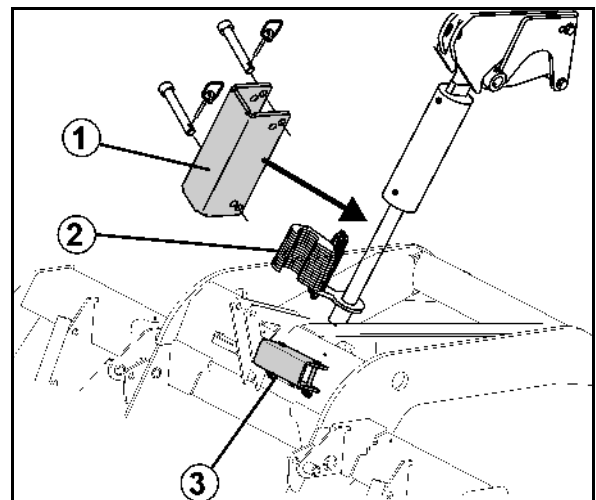

Fig. 10
- Mechanical safety of the running gear cylinder (Fig. 10/1) to prevent unintentional lowering of the tines during maintenance work
2. Sway all spacer elements (Fig. 10/2) away from the piston rod.
3. Remove the safety unit from the parking position (Fig. 10/3).